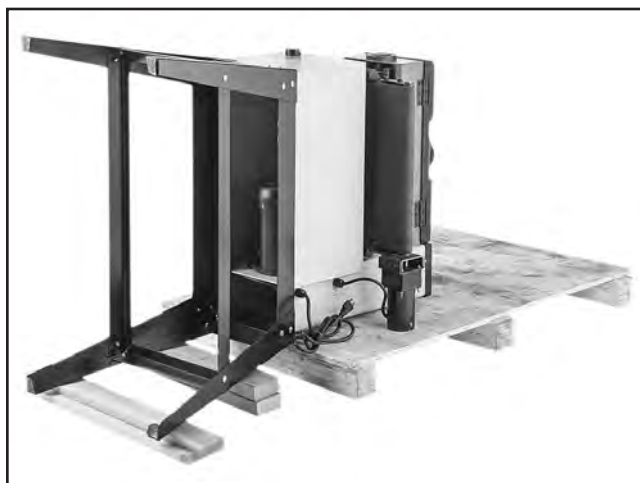

Figure 9. Stand resting on blocks.
Tip: Place two stacks of blocks the same height as the pallet and about 15 inches apart on the floor near the sander base, and lay the stand assembly on the blocks, as shown in **Figure 9**.
13. Lay stand assembly on blocks, as shown in **Figure 9**.